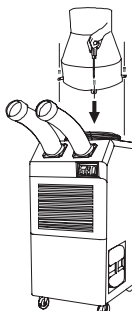

Figure 18
3. Use screws (enclosed inside of box with exhaust flange) to install exhaust flange on air conditioner as shown in Figure 18.